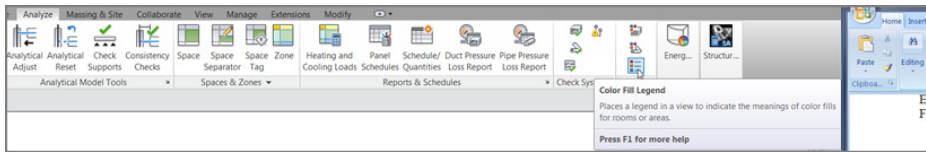

FIGURE 15.18: Clicking the Color Fill Legend button
6. On the Analyze tab, click the Color Fill Legend button, as shown in Figure 15.18.